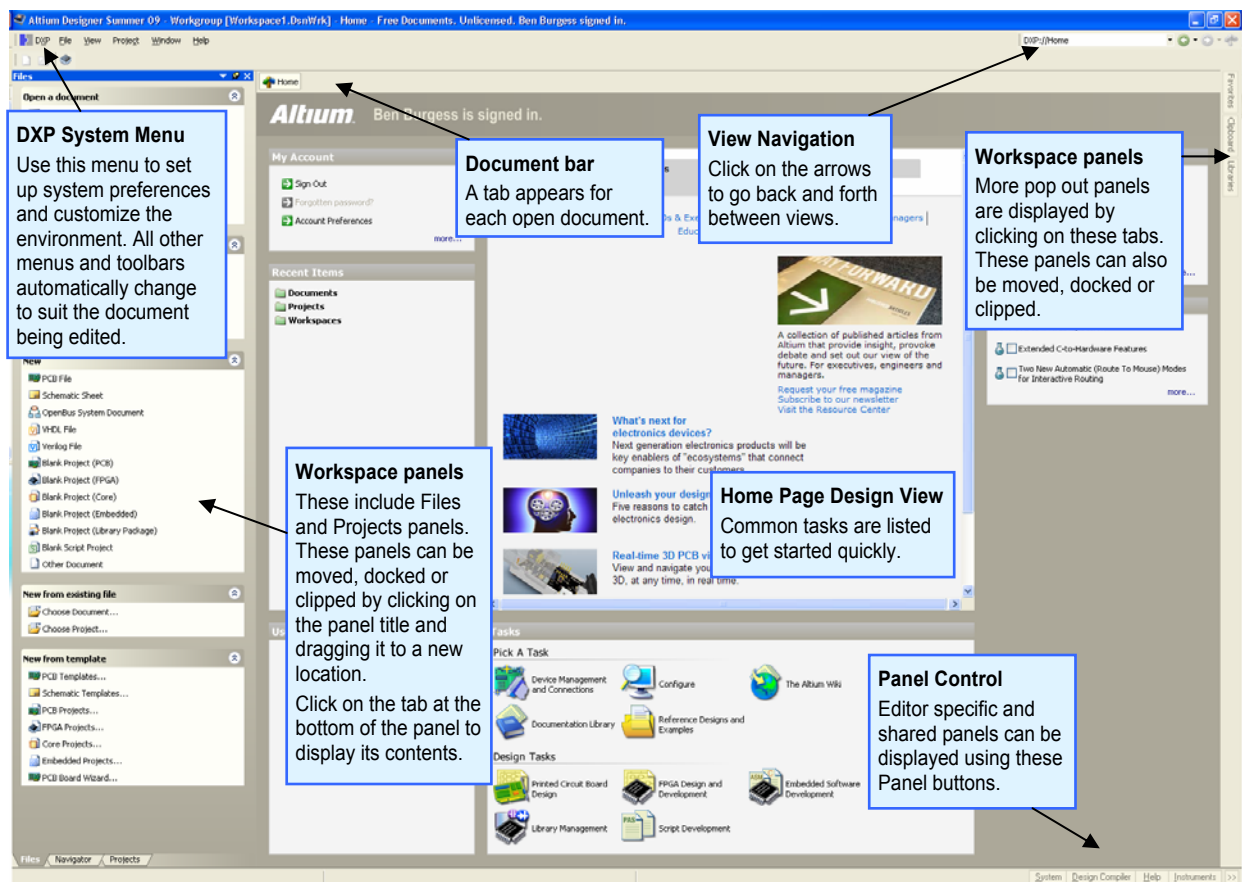

Figure 2. Altium Designer with the DXP Home Page displayed.
- The main document editing area of Altium Designer, shown on the right side in Figure 2.